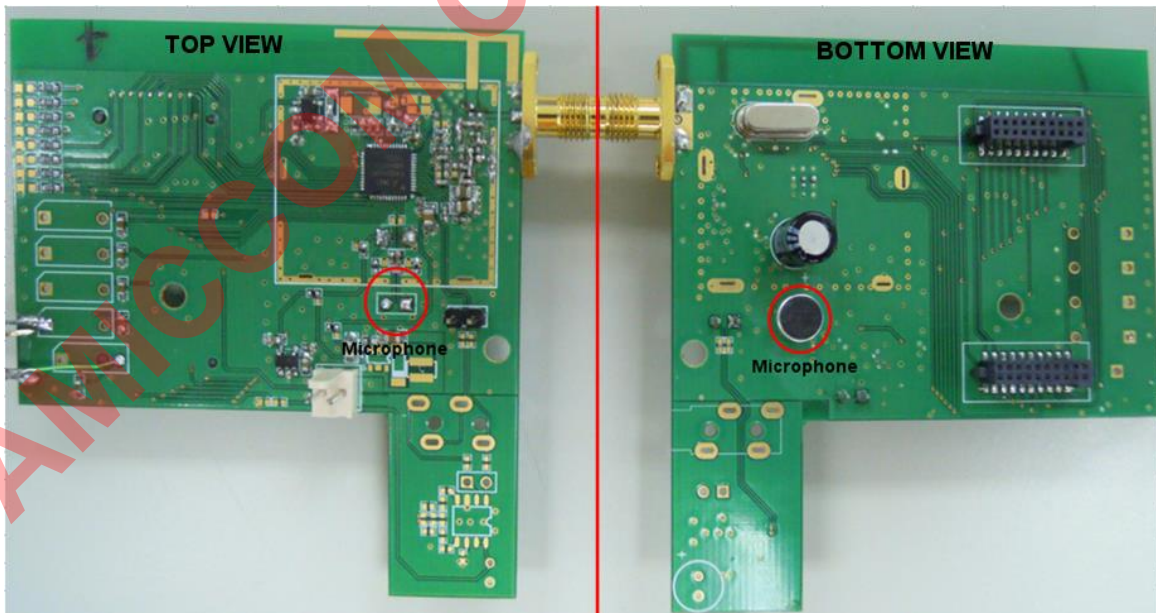

Fig 2.2e Microphone placement
- The microphone should be far away from the PCB antenna to avoid the interference of high power RF signal. The microphone should be mount on PCB as close as possible. Please refer to Fig. 2.2e.